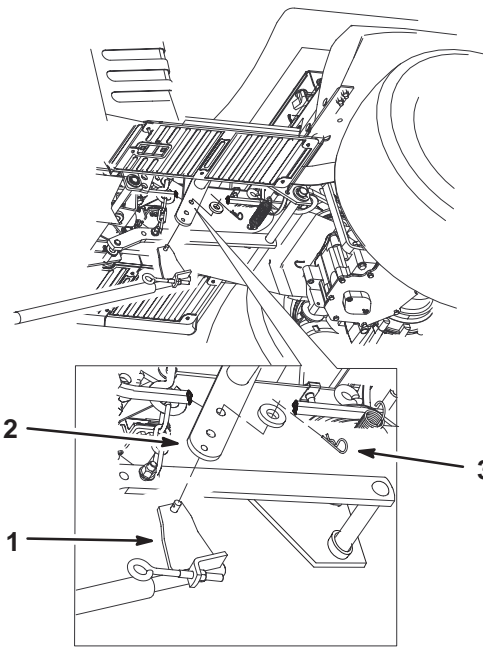

Figure 38
8. Remove the lift tube from the attachment lift by removing hairpin cotter pin (Fig. 38).